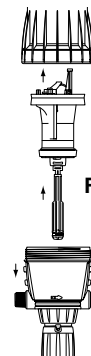

Fig. 14
- Remove the motor piston (**Fig. 14**) by pulling it up.